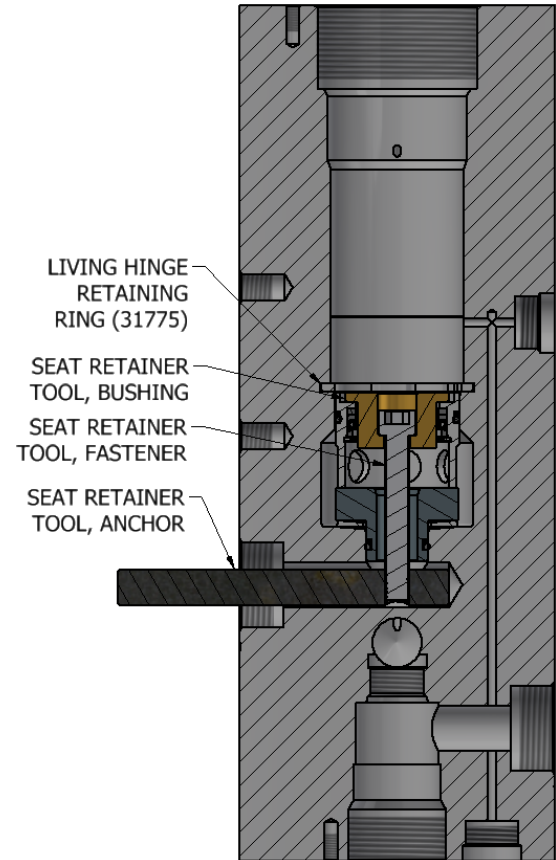

Figure 8 – Seat Retainer Tool
- 12.4 Place Anchor through the Pilot bore in body, then place fastener through bushing and torque until hand tight. See Figure 8– *M5 Hex Wrench*
- 14.2.1 Take Seat Retainer Tool Assembly (31825) and place bushing down in the bore per Figure 8. – *Needle Nose Pliers*
- 14.2.2 Place Anchor through the Pilot bore in body, then place fastener through bushing and torque until hand tight. See Figure 8 – *M5 Hex Wrench*